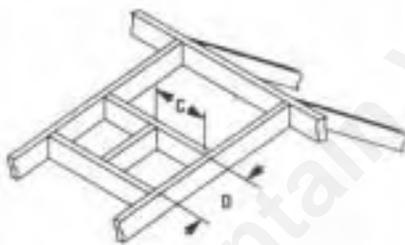

Figure 20
**D.** To add vent sections, start with the 5" (127 mm) inner section and slide it over the previously installed inner section; an overlap of 1 3/4" (32 mm) is required. The section will not bottom out on the bead. **Remember to seal inner sections using \_Mill-Pac Black (700°F) high temperature sealant on the mating surfaces before fitting together.** Secure with two (2) No. 8 x 1/4" sheet metal screws. Slide the 8" (203 mm) outer section over the previously installed outer section; a 1 3/4" (32 mm) overlap is required. This section will not bottom out on the bead. Make sure the crimped end of both inner and outer vent sections are the same height and that the centering spacer is properly seated. Secure with two (2) No. 8 x 1/4" sheet metal screws.
**E.** At transition from or to a horizontal/inclined run, the \_DST5-90ELB/\_DST5-45ELB elbows install in the same manner as the straight vent sections. Apply \_Mill-Pac Black (700°F) high temperature sealant to the inner joints. Slip the inner elbow over the straight inner vent section. Secure with two (2) screws. Slide the outer elbow over the inner elbow, slip down over the outer vent section. Secure with two (2) screws.
H. Identify location for vent at the roof. Cut and/or frame opening per Roof Framing Chart and Figure 20.